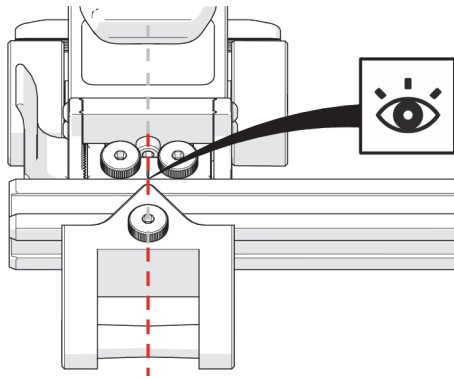

Figure 2-16 Align the mounting bracket
1. Tighten the knob (see Figure 2-16 on page 48).
2. Center the QuickLink mounting bracket to the center point marking on the cart's pivot mount (see Figure 2-16 on page 48).